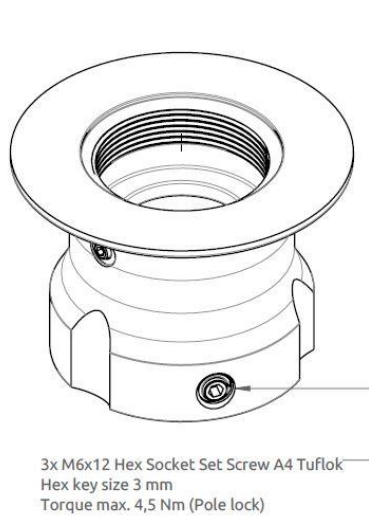
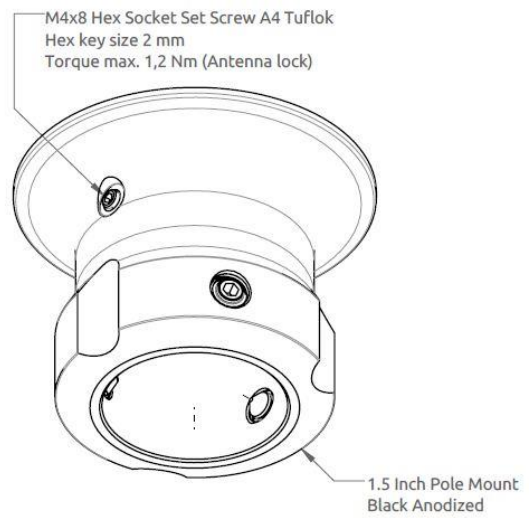

Figure 26: Pole Mount (1.5" pipe), Antenna Unit.
Figure 27: Pole Mount (1.5" pipe), Antenna Unit.
The Pole Mount (1.5" pipe), Antenna Unit is illustrated in Figure 25 to Figure 27.
4. Screw the pole mount (clockwise) on the LT-3130 Antenna Unit, and fasten the antenna lock pinot screw, as illustrated in Figure 27 (max torque = 1.2 Nm)
5. The LT-3130 Antenna Unit and pole mount can now be mounted on the 1.5" pipe. Fasten the three pole lock pinot screws, as illustrated in Figure 26 (max torque = 4.5 Nm)
The Pole Mount (1.5" pipe), Antenna Unit only supports a 1.5" pipe. The pinot screws (antenna and pole lock) torques are specified in Figure 26 and Figure 27. The pole mount is made of milled aluminum (anodized). The pinot screws are made of A4 stainless steel.